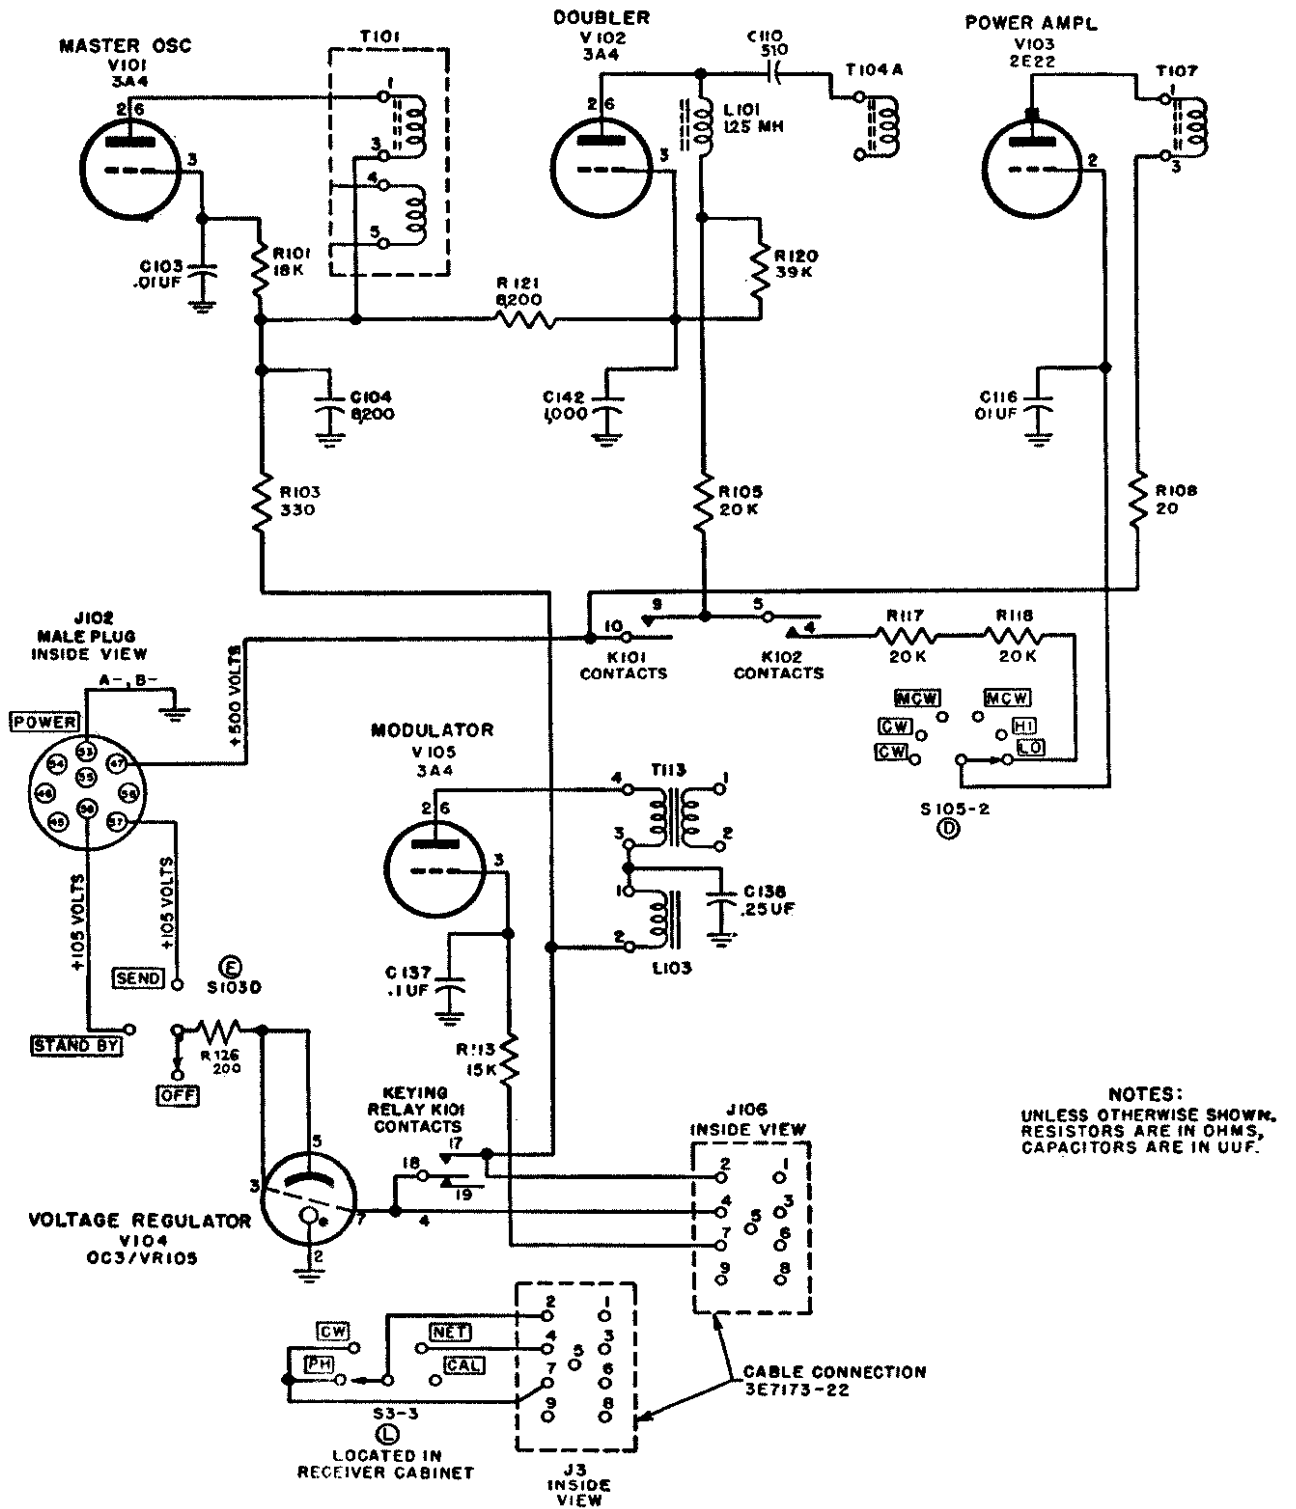

Figure 81. Transmitter plate and screen grid voltage supply circuits.
- (2) The modulator tube receives its plate voltage through the decoupling filter composed of L103 and capacitor C138. This filter is connected to the power supply through contacts 17 and 18 of keying relay K101. Thus, unless the key of the microphone button is depressed, the contacts are open and the modulator does not receive any plate voltage.
- (3) The screen receives its voltage from dropping resistor R113 which connects to terminal 7 on receptacle J106 (see main schematic). Terminal 7 on J106 is connected to terminal 2 on J106 by means of connections through circuits located inside the receiver cabinet (fig. 81). Terminal 2 is connected to B+ through contacts 17 and 18 of keying relay K101. Thus the screen voltage depends, as with the plate, on the position of the keying relay. If the key is up, there is no screen or plate voltage on the modulator tube. Capacitor C137 is the screen bypass capacitor.
99. Transmitter Plate and Screen Supply Circuits (fig. 81)
b. **POWER AMPLIFIER PLATE.** Terminal 47 supplies 500 volts d-c plate voltage for power amplifier tube V103. The plate of V103 is connected by T107 and R108 to pin 47 of J102 (fig. 81). Thus, the moment the generator is cranked, or the dynamotor-power supply is switched on, the power amplifier plate is energized.
f. **DYNAMOTOR-POWER SUPPLY DY-88/GRC-9-GY.** In order for the transmitter to receive power from the dynamotor power supply, Cord CD-1086-GY is plugged from J102 on the transmitter to plug J202 on the dynamotor power supply. When the set is used for long periods of listening only, the l-v vibrator portion of the dynamotor power supply is in operation. The l-v power supply requires much less vehicular battery current than does the h-v supply. This portion operates when switch S103D, control E is at STANDBY (fig. 81). When control E is at the SEND position, both the dynamotor and vibrator portions of the power supply operate to supply power to the receiver and transmitter.
105 volts d-c at 45 ma to the plate and screen circuits of V5 and V6 in the receiver (fig. 65) and to the oscillator, doubler, and modulator plates and screens of the transmitter, during send periods (figs. 81 and 82).